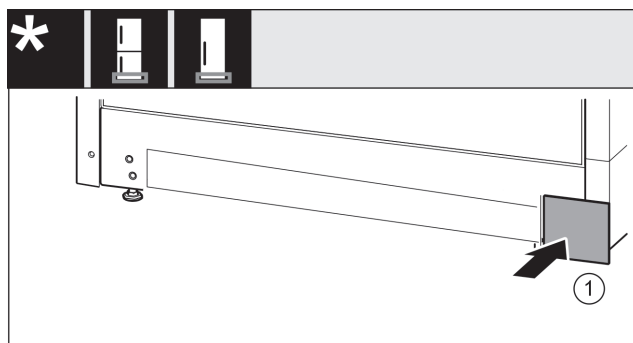

Fig. 16
► Put back the cover on the other side. Fig. 16 (1)